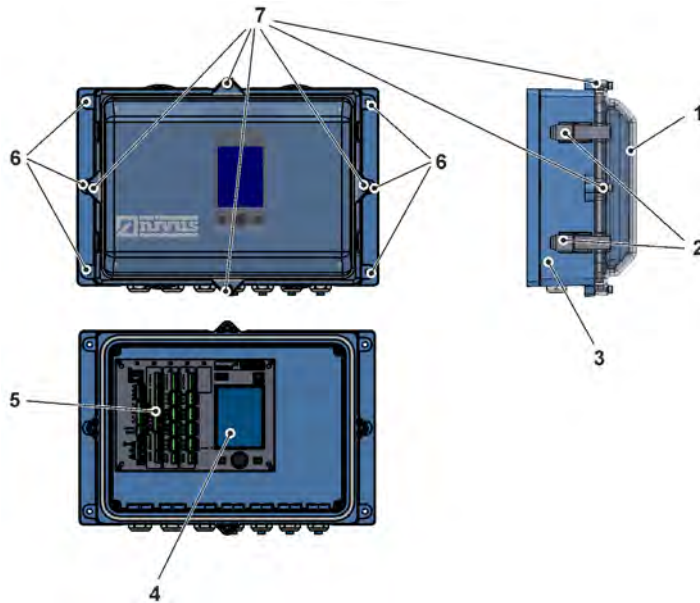

Fig. 21-2 Fastening the Field Enclosure
1. Fasten the field enclosure (Fig. 21-2 Pos. 3) with the six pre-selected fastening screws through the through holes with diameter 6.5 mm (Fig. 21-2 Pos. 6) to the two side lugs.
2. If present, remove the transport protection foil from the transparent enclosure cover (Fig. 21-2 Pos. 1).
1. To remove the transparent enclosure lid (Fig. 21-2 Pos. 1) from
Open the four clamp locks on each side (Fig. 21-2 Pos. 2) and remove the enclosure cover.
Remove the four cylinder head screws M4x25 (Fig. 21-2 Pos. 7) with the corresponding washers; open the four clamp locks (Fig. 21-2 Pos. 2) and remove the enclosure cover.
2. To remove the inner blue cover, unscrew the four round-head screws M3.5x25 in the corners and remove the cover. Now the transmitter, the display (Fig. 21-2 Pos. 4), the connection terminals (Fig. 21-2 Pos. 5) and, if available, the pXT0 are freely accessible.